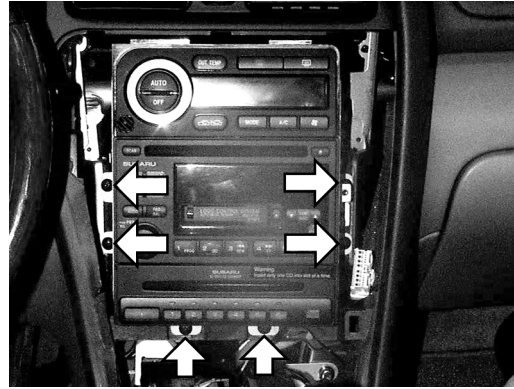

Figure 5
- Remove the six screws indicated by the arrows in Figure 5. Do not disconnect any connectors. Pull the unit out just far enough to access the passenger side of the unit. See Figure 6.